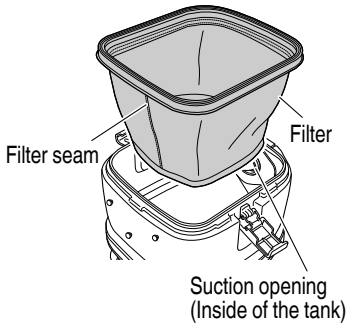

Fig. 14
- (2) Insert the cloth filter so that the seam is on the other side of the hose inlet. **(Fig. 14)**